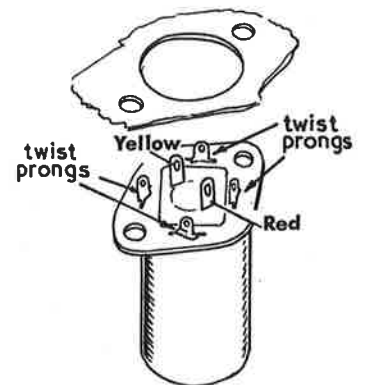

FIGURE 6
- (1) Mount the 6-way tagstrip at location LT with a 4BA solder tag at location EG. Secure with two 4BA x $\frac{1}{4}$ " binder-head screws, lockwashers and nuts.
- (2) Select the two output transformers (Part No. 51-507). NOTE: It makes no difference which transformer is used for A or B channels.
- (3) Take one transformer and thread the WHITE, YELLOW, BLUE, RED and BLACK wires through grommet GH and the VIOLET, YELLOW and GREEN wires through grommet GK.
- (4) Mount the transformer to the chassis with two 4BA x $\frac{1}{4}$ " screws, lockwashers and nuts in the holes on either side of grommet GH only. Finger tighten the nuts at this time.
- (5) Mount a 4-way double fixing tagstrip at location LB using the holes on either side of grommet GK and secure with two 4BA x $\frac{1}{4}$ " screws, lockwashers and nuts. These screws also secure the transformer.
- (6) Tighten all four transformer mounting screws.
- (7) Take the other output transformer and thread the WHITE, YELLOW, BLUE, RED and BLACK wires through grommet GL and the VIOLET, YELLOW and GREEN wires through grommet GM.
- (8) In the same manner secure using 4BA x $\frac{1}{4}$ " binderhead screws, lockwashers and nuts in the holes on either side of grommets GL and GM with a 4-way double fixing tagstrip at location LA.
- (9) Select the mains transformer (Part No. 54-529). Remove the four 2BA nuts without disturbing the top shell which holds the voltage selector panel.
- (10) Place the transformer through the chassis cut-out with the coloured leads positioned as shown. Place a 2BA lockwasher over each screw and firmly tighten using the 2BA nuts previously removed.
- (11) Select the 60 + 75 μ F electrolytic capacitor and mounting plate. Insert the prongs of the electrolytic and lock in position by twisting the prongs as shown in Figure 6.
- (12) Mount the 60 + 75 μ F electrolytic capacitor at location SC with the colours positioned as shown. Use two 6BA x $\frac{1}{4}$ " binderhead screws, lockwashers and nuts.
- (13) Select the pre-assembled rear panel and mount it to the rear flange of the chassis with two 4BA x $\frac{1}{4}$ " binderhead screws with a 4BA solder tag at location EB.
- (14) Select and identify the left and right-hand side brackets.
- (15) Refer to Pictorial 14, position the left-hand side bracket and secure as shown with five 4BA x $\frac{1}{4}$ " binderhead screws, lockwashers and nuts.
- (16) Position the right-hand side bracket and secure as shown with five 4BA x $\frac{1}{4}$ " binderhead screws, lockwashers and nuts.
- (17) Dress the screened cables between the side bracket and output transformers.
- (18) Refer to Pictorial 13 and connect the BROWN lead from mains transformer MT to FH tag 1 (S-1). Bend the tag and wire clear of the 4BA nut.
- (19) Connect a 3 $\frac{1}{2}$ " length of BLACK wire between FH tag 2 (S-1) and SC tag 1 (NS). Bend the tags clear of the chassis and 4BA nut.
- (20) Connect the RED flexible wires from MT (wires near BROWN wire), one wire to RV tag 6 (S-1) and the other wire to RV tag 4 (S-1).